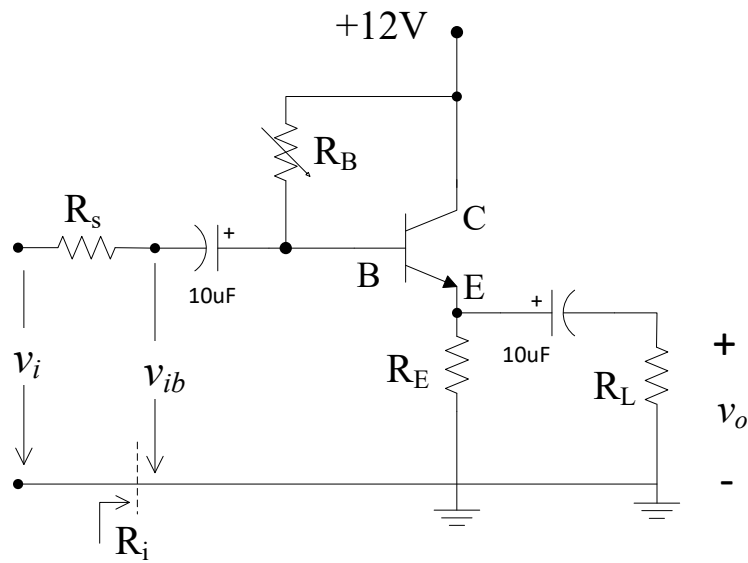

Figure 7.1: A common-collector BJT amplifier/emitter follower.
In Fig. 7.1, assuming $V_{BEQ} = 0.6\text{V}$, $\beta = 160$, $R_s = 10\text{k}\Omega$, $R_B = 56\text{k}\Omega$, $R_E = 1\text{k}\Omega$,
- Construct the circuit in Fig. 7.1 using a npn BJT (2N3904) and $R_L = 300\text{k}\Omega$